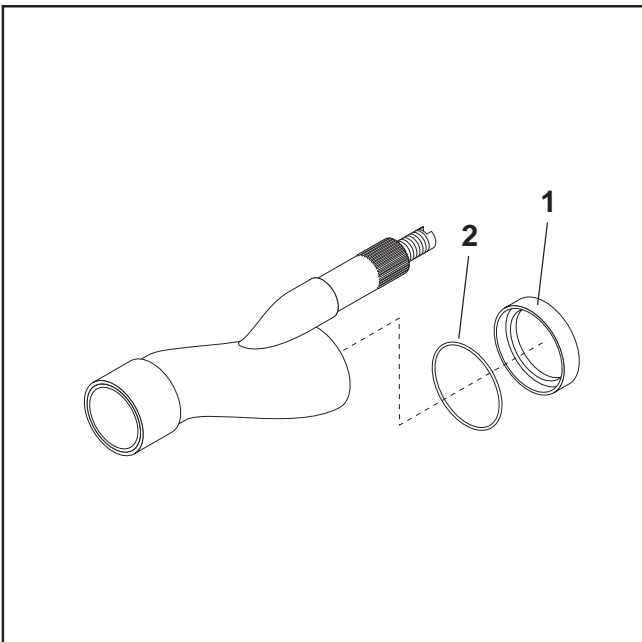

FIG.54
- remove the worn disc and re-assemble a new one careful to re-position the compensating ring in the disc's groove (FIG.54-REF.2).